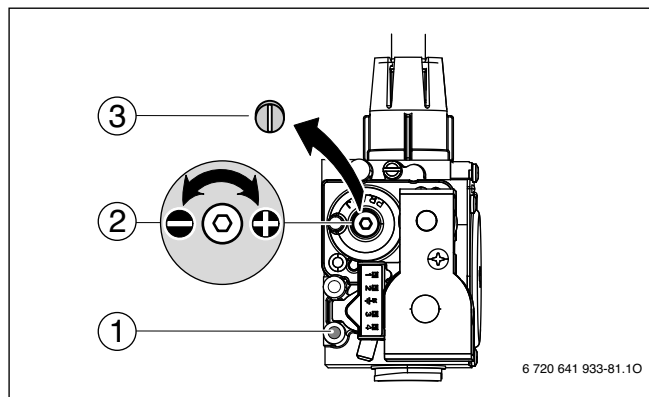

Fig. 74 Set CO₂ or O₂ level for minimum nominal output
- ▶ Remove the sealed screw (→ Fig. 74, [3]) from gas valve adjustment screw (→ Fig. 74, [2]) and set CO₂ or O₂ level for minimum nominal output.
- ▶ Reinstall the screw (→ Fig. 74, [3]) to cover the gas valve adjustment screw.
- ▶ Loosen the screw in the test port for gas inlet pressure (→ Fig. 74, [1]) and connect a pressure gauge (→ Fig. 76).